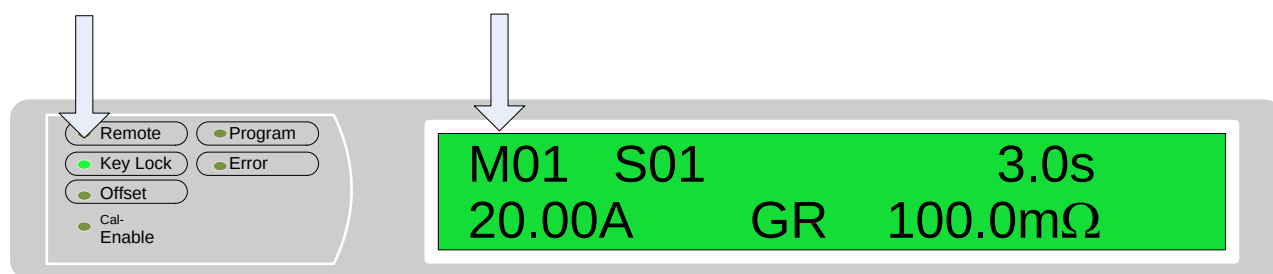

Figure 8: QuadTech Guardian 6000 Final setup screen
- 4.4.1. From the initial screen, type the **4 digit password** from the calibration database then press the **Off** key. The Key Lock LED will illuminate. The display will appear as in Figure 8